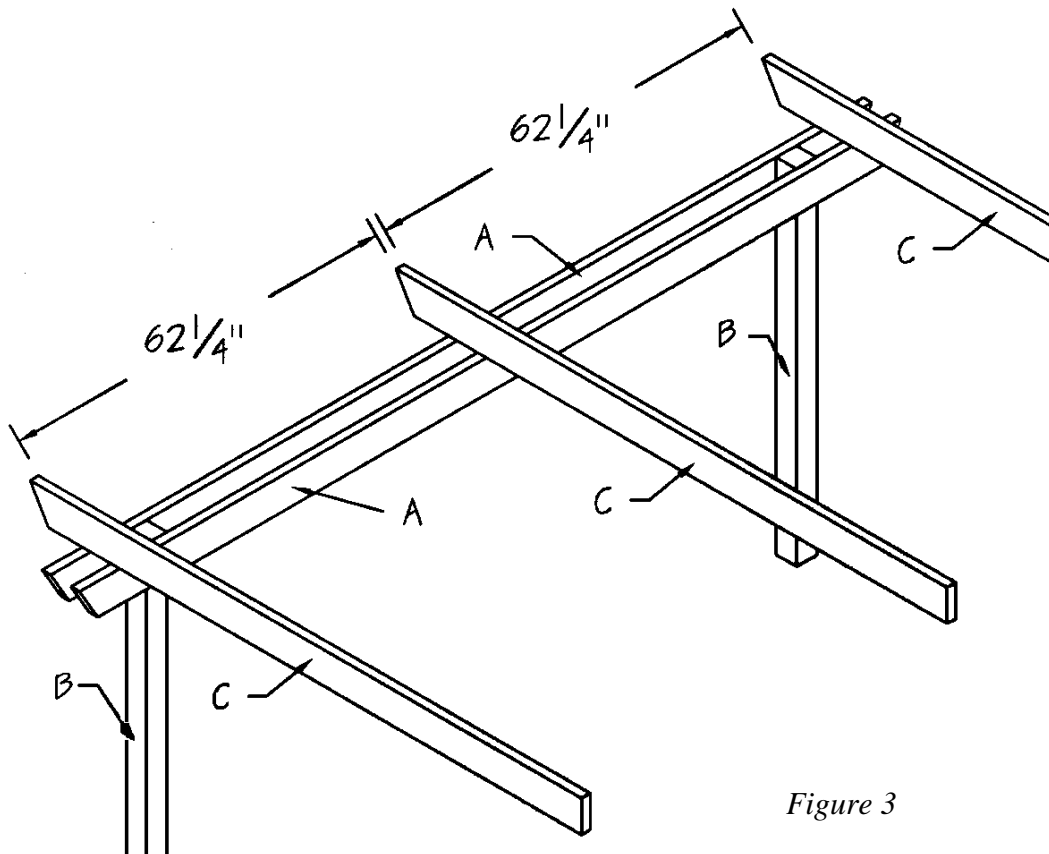

Figure 3
1. Cut three Tops (C) from 2 x 6 pine, each measuring 14 inches long. If desired, use a miter to make a 30-degree cut on one end of each of the Tops (C).
2. Place the three Tops (C) on edge over the roof supports (B), with the mitered end away from the house, as shown in *Figure 3*. Attach the Tops (C) to the Roof Supports (B) with metal tie-down braces. Make sure that the Tops (C) are level before installing the braces.